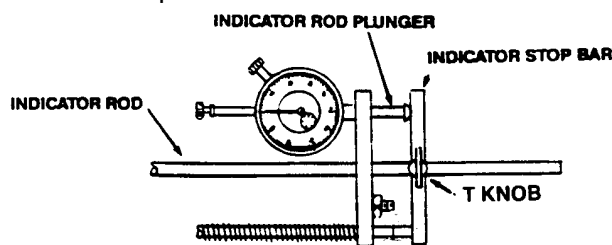

Fig. 18
- C. Now loosen knob C (See Fig. 8) on the indicator stop bar. Holding the indicator rod firmly against the reel shaft, move the indicator stop bar back, until no contact is made and then an additional 1/2". This will set the plunger at about its midpoint, allowing it to move in both directions. (See Fig. 18)